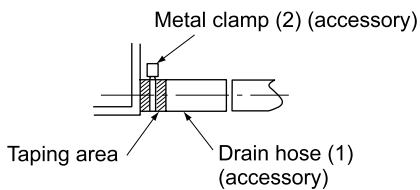

Fig. 22
- Use the drain hose (1) and the metal clamp (2). Insert the drain hose into the drain socket, up to the gray tape. **(Refer to Fig. 22)**